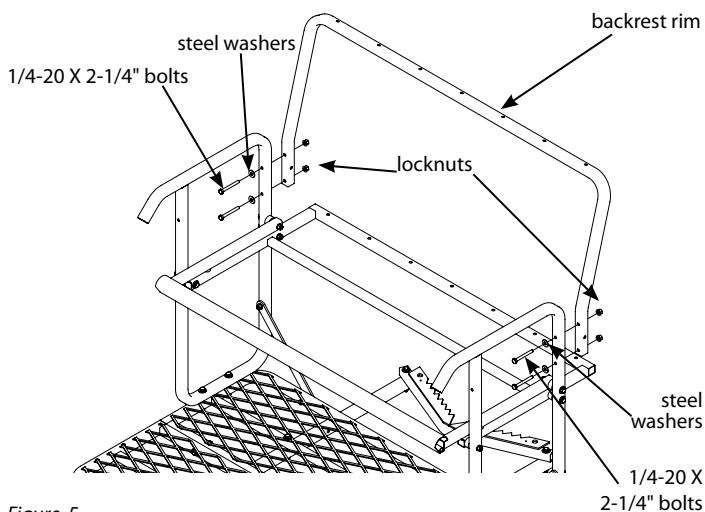

Figure 5
8. Attach the backrest rim (10325) to the side seat support loops using (4) provided 1/4-20 x 2-1/4" bolts, locknuts and steel washers. **SEE FIGURE 5. You must now tighten all nut and bolt assemblies. Be sure not to over tighten or crush tubing when tightening!**